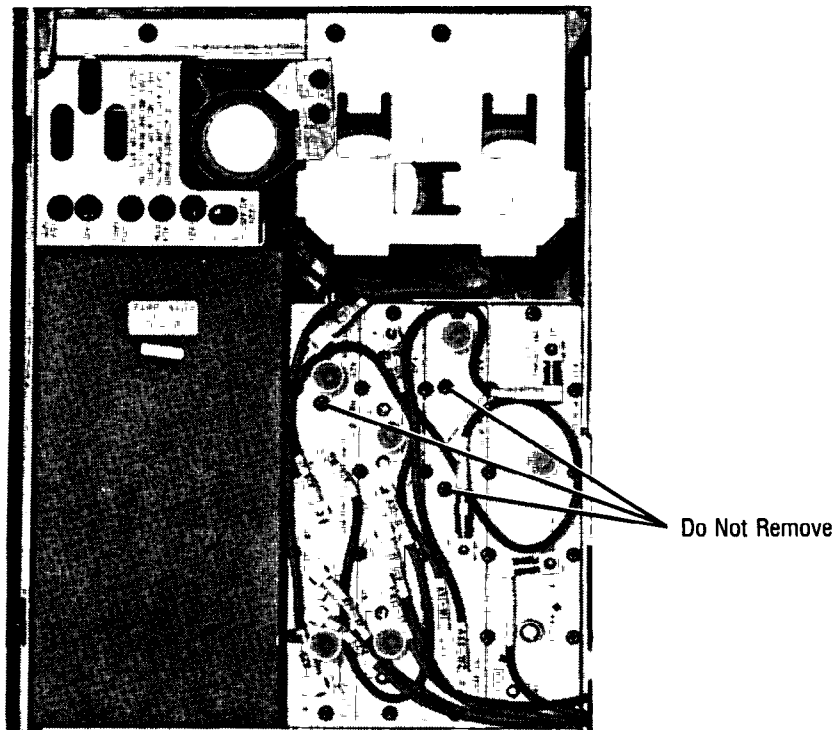

Figure B-24. Reference Loop — M/N Loop Assemblies and Mounting Hardware
15. Refer to Figure B-24, Reference Loop — M/N Loop Assemblies and Mounting Hardware. On the bottom of the instrument, remove all cables going to the A29, A30, A31, and A33 assemblies.
16. Again refer to Figure B-24. With a small pozidriv, remove all 28 screws that hold the A29, A30, A31, and A33 sheet metal covers in place. Note that 3 screws are shown in Figure B-24 which do not need to be removed. Remove the A29, A30, A31, and A33 assemblies.
Reinstall the A29, A30, A31, and A33 assemblies, along with the 28 retaining screws. Reconnect all cables. (Refer to Figure B-24 if necessary.)